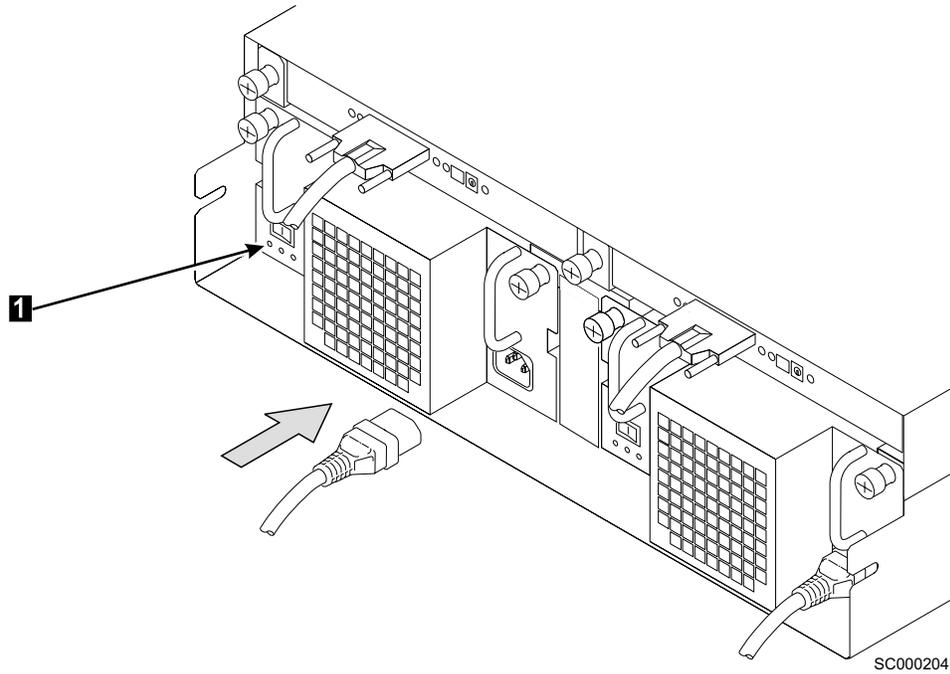

Figure 57. Plugging in the mainline power cable
7. Plug the mainline power cable into the new fan-and-power-supply assembly. See Figure 57. Verify that the green AC PWR light **1** comes on immediately.